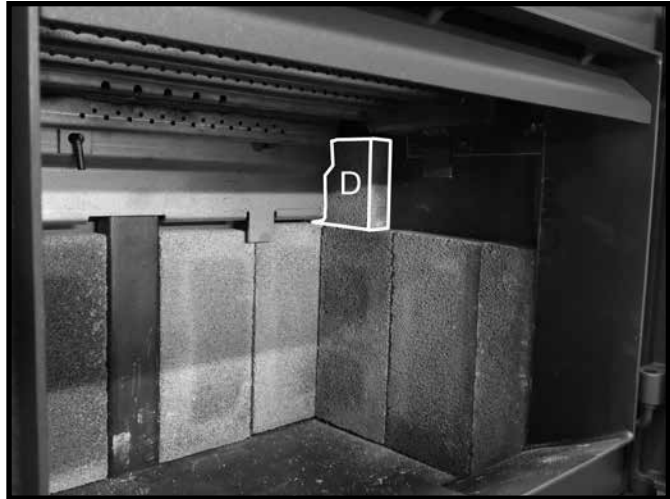

Figure 29: Small side wall firebrick in position.
6. Place a "D" firebrick on top of the previously placed "A" firebricks and slide this firebrick back toward the rear wall making sure that this firebrick tucks in behind the brick rail (Figure 29).